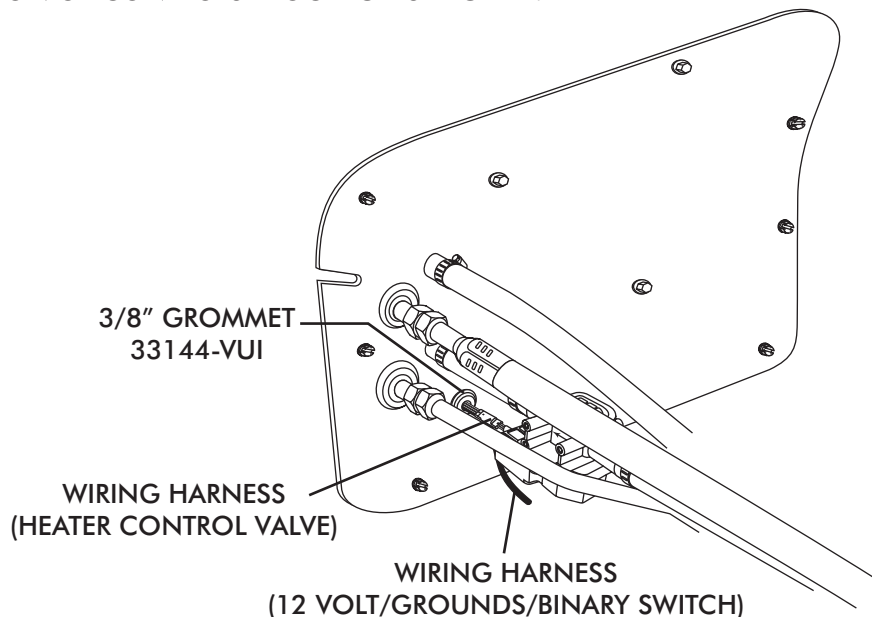

FIGURE 16
- ☐ ROUTE A/C WIRES THROUGH 3/8" GROMMET AS SHOWN IN FIGURE 16 (12 VOLT/GROUND/BINARY SWITCH/HEATER VALVE).